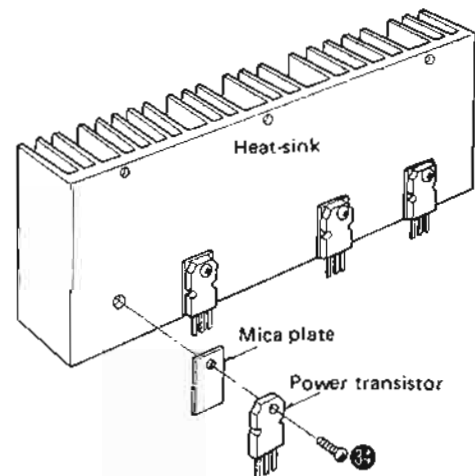

Fig. 7
4. Remove the power transistor setscrew (Fig. 7 : 34).